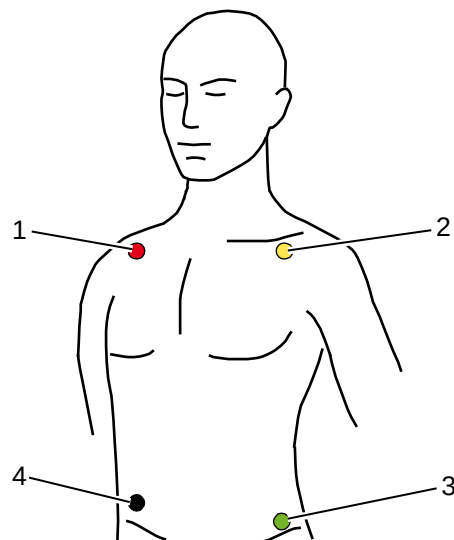

Fig. 6-2 ECG monitoring, applying the ECG electrodes (shortened form)
shortened: under the right clavicle (Fig. 6-2, item 1)
shortened: under the left clavicle (Fig. 6-2, item 2)
central to the axis of the leg (Fig. 6-2, item 3)
shortened: under the right costal arch (Fig. 6-2, item 4)